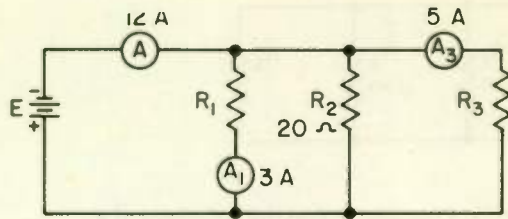

Fig. 12
4. The voltage of the battery in Fig. 12 is 80 volts.